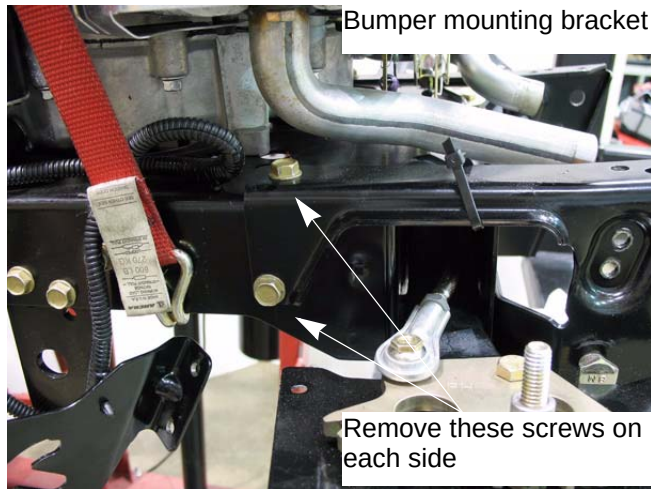

Figure 6.33
4. Remove the four screws fastening the bumper mount bracket to the frame. See Figure 6.33.